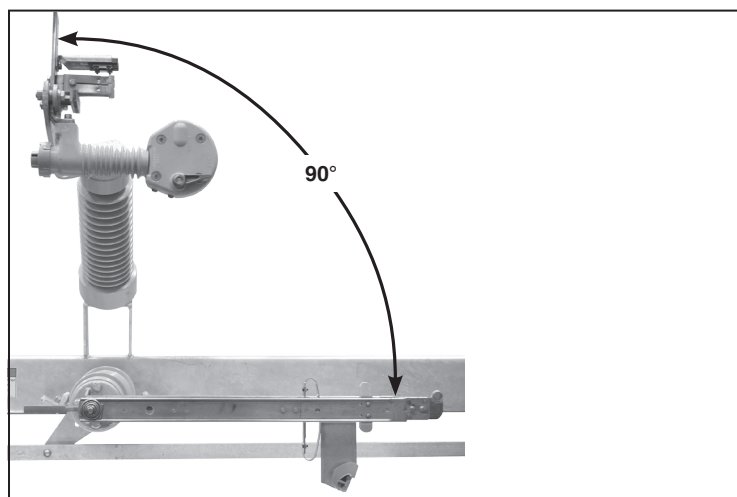

Figure 40. Check that the switch blades are 90 degrees from the Closed position.
- (b) With the operating handle as far as it will go in the opening direction, the switch blades are 90 degrees from the **Closed** position. See Figure 40.